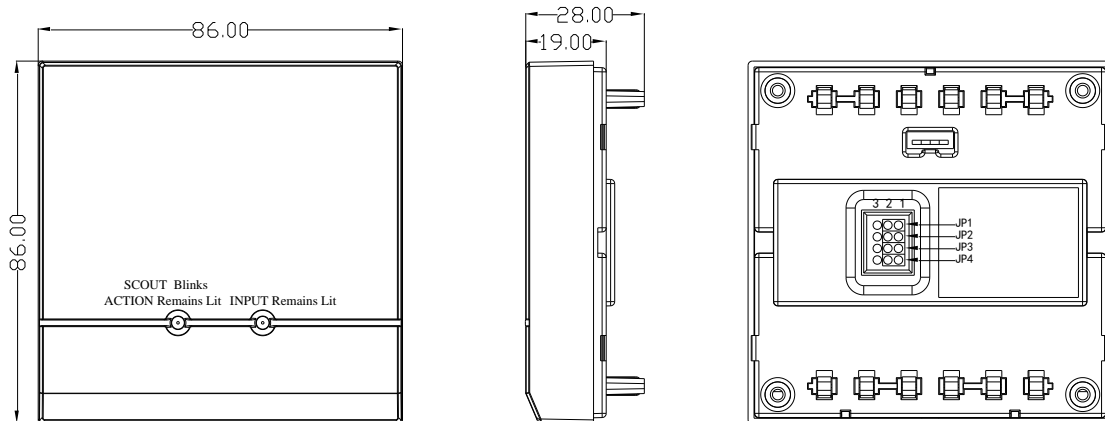

Fig.1 Main Body of the ATL-956 Module
Jumper description (see Fig.1)
2. Connect the 4-pin coding plug on the coder with the 4-pin coding socket (see Fig.1) on the main body of the ATL-956 module and then set the coder with the coding function and compile the correct address code to finish the address coding.